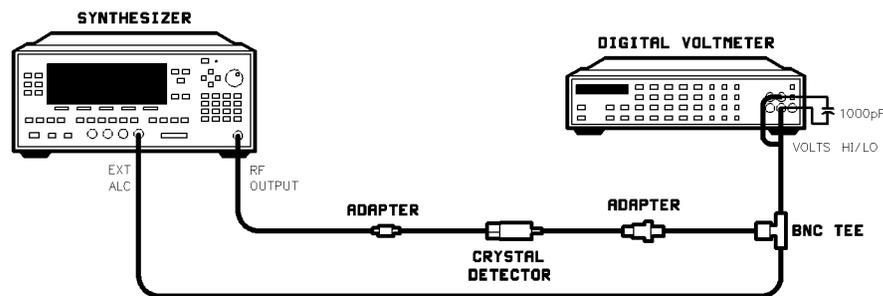

Figure 2-8. External Leveling Test Setup
1. Preset all instruments shown in Figure 2-8 and let them warm up for at least one hour.
- Connect the equipment as shown in Figure 2-8.